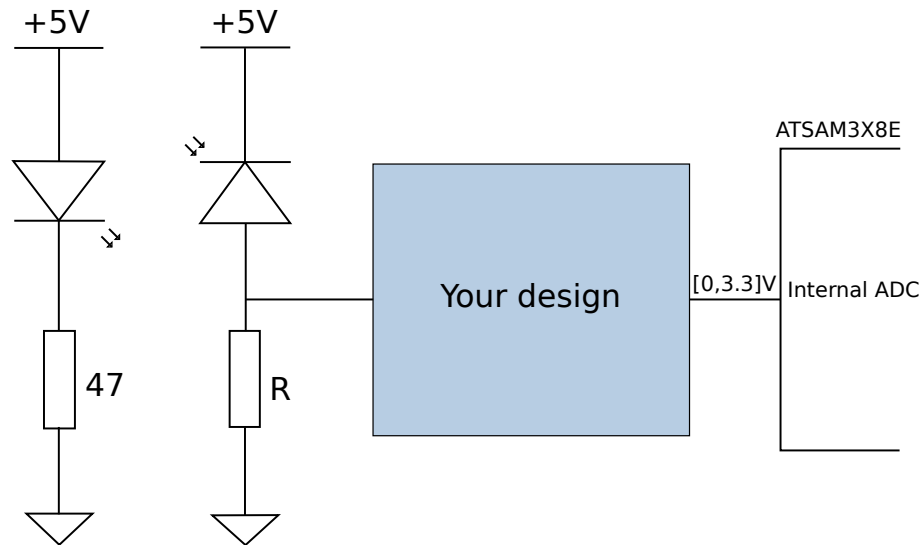

Figure 24: Suggested IR assembly
7. Connect the IR diodes in a way that makes it possible to detect when the IR beam is blocked. An example is given in Figure 24. You might consider implementing an analog filter. **Check that the signal is correct before connecting it to the microcontroller**